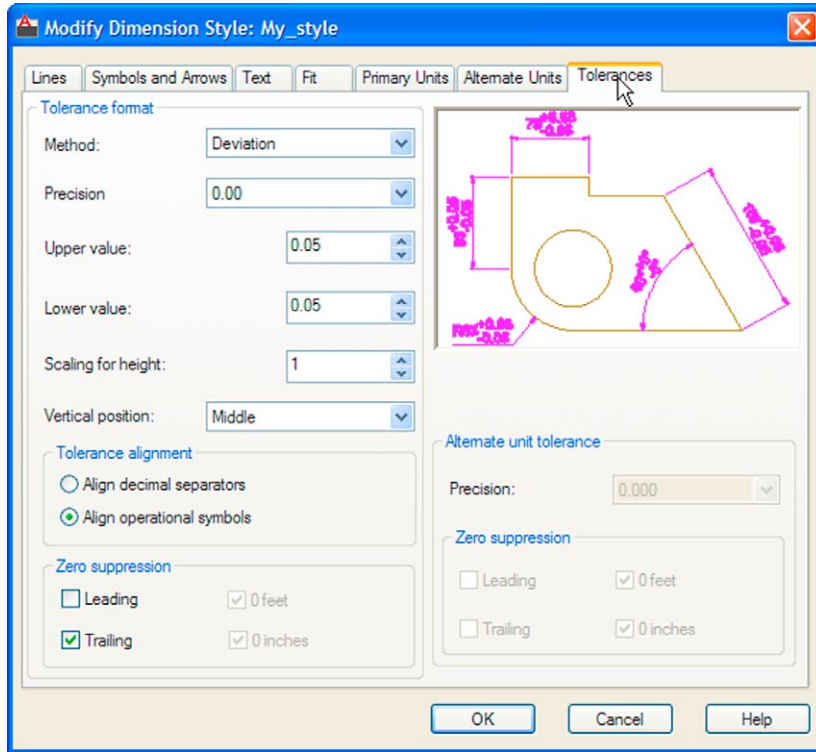

Fig. 6.17 The Tolerances sub-dialog of the Modify Dimension Style dialog
2. *Click* the **Modify...** button of the dialog, followed by a *left-click* on the **Primary Units** tab and in the resulting sub-dialog make settings as shown in Fig. 6.17. Note the changes in the preview box of the dialog.
3. Dimension the drawing using either tools from the **Dimension** panel or by *entering* abbreviations at the command line. Because tolerances have been set in the **Dimension Style Manager** dialog (Fig. 6.17), the toleranced dimensions will automatically be added to the drawing (Fig. 6.19).